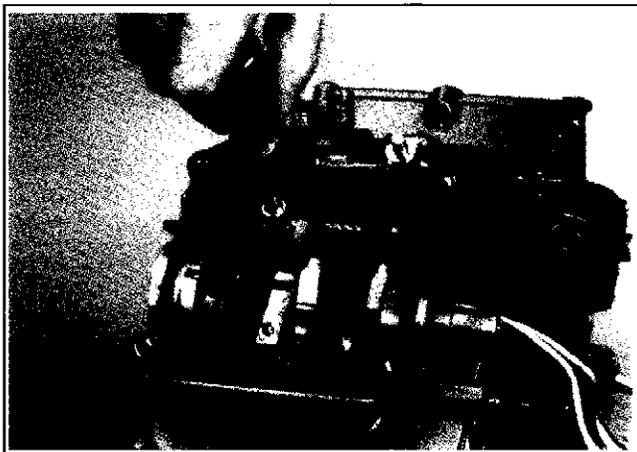

Figure 11-30. Installing Rocker Arm Assembly on #1 Side.
1. Lubricate the rocker arm shaft. Install rocker arm assembly into position in chamber on the #1 side. Torque screws to 4.0 N·m (35 in. lbs.). See Figure 11-30.